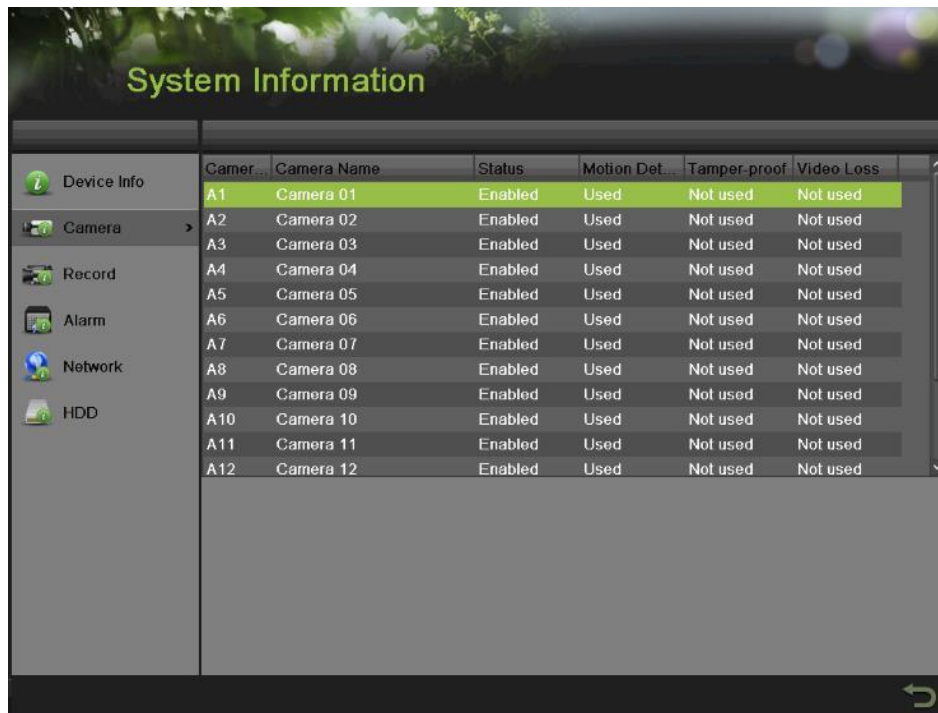

Figure 46 Camera Information Menu
2. Select the Camera tab to enter the Camera Information menu to view the status of each camera, as shown in Figure 46.